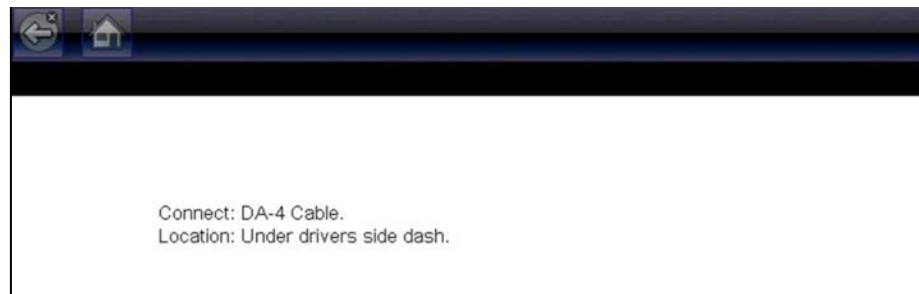

Figure 3-3 Vehicle connection data cable message
On-screen cable and adapter connection instructions are provided while using the Scanner and OBD-II/EOBD functions. The instructions may also include the location of the vehicle DLC (Figure 3-3). If required, additional connection information can be found in the appropriate vehicle communication software manual for the vehicle. Vehicle communication software manuals are available online, see the website information at the front of this manual
1. Follow the on-screen instructions for connecting to the vehicle (Figure 3-3).